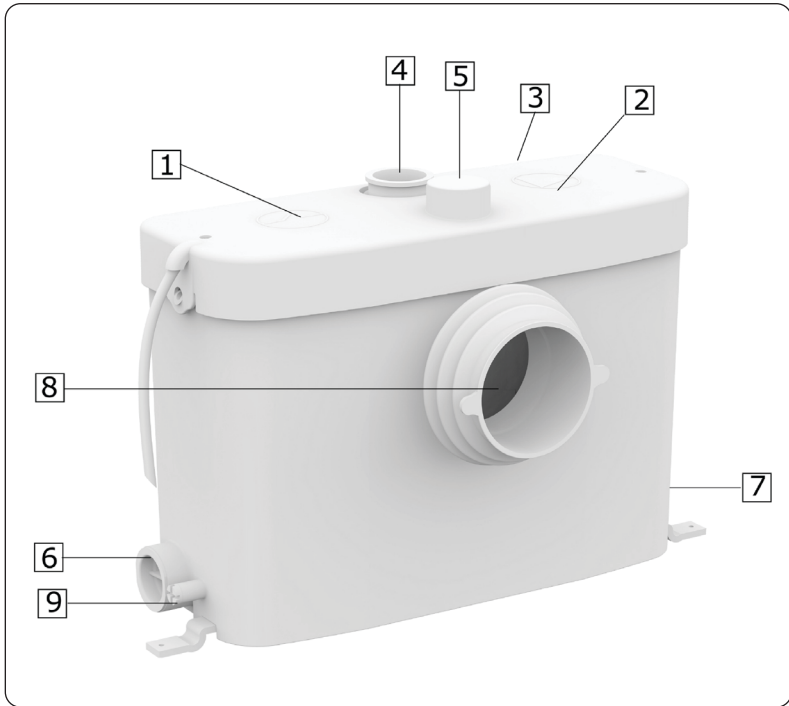

Figure 5.
- If you want to connect 3 sanitary units to the device regardless of the toilet connection point, then cut the top of the input socket marked 5, with a saw shown in Figure 5 in Chapter 4. You can connect the sewage pipe of the third sanitary unit to this inlet.